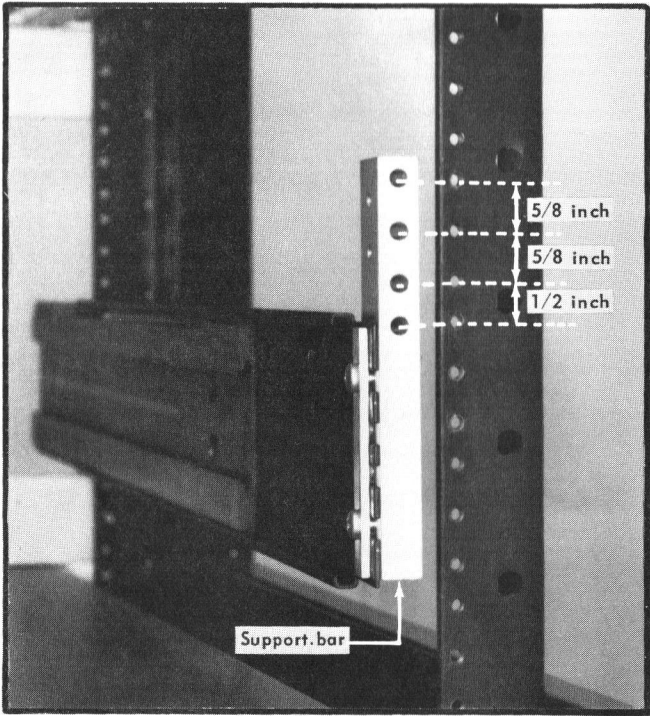

Fig. 8-9. Vertical mounting position for rear end of slide-out tracks. Left stationary section is shown.
4. With the front end of each stationary section attached to the front rail, hold the track in a level position in the rack and locate the proper rear-rail mounting holes. (See Fig. 8-9).